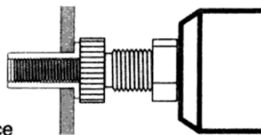

Figure 2
3. Squeeze handles firmly to compress back side of Rivet Nut. This will force the rivet nut to barrel outward and clench it tightly to the work piece.* (Figure. 2)